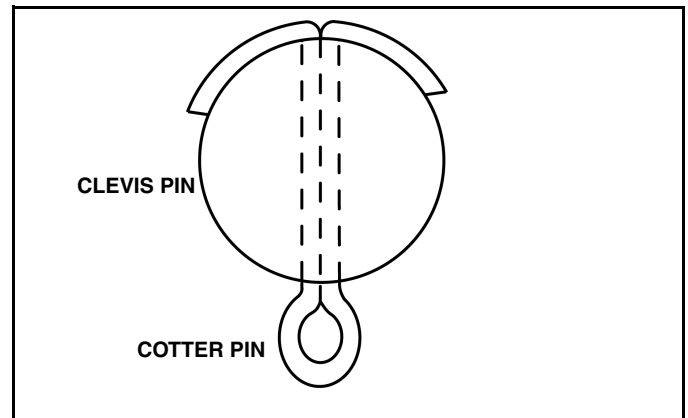
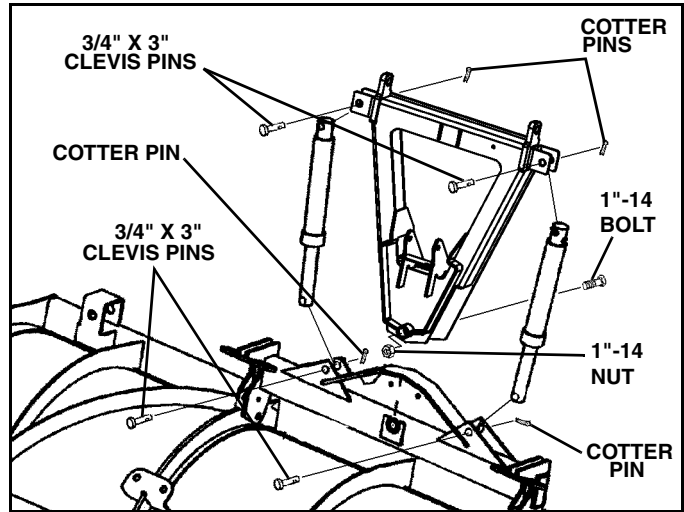
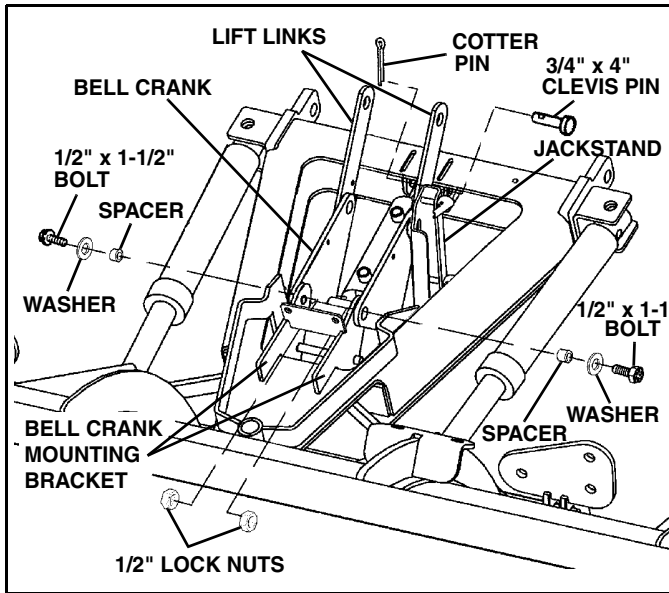

Figure 1-6
Figure 1-8
Figure 1-9
NOTE: Note: Make sure cotter pin is properly bent as in fig. 1-6 or pin may work loose.
11. Slide A-frame over top of the swing frame. Make sure the bell crank mounting brackets are on top. (See Figure 1-8).
12. Lubricate the 1" bolt from the A-frame parts bag and insert it through the A-frame and swing frame. The bolt head should be on the bottom of the plow. Install the 1" nut hand tight only. (See Figure 1-8).
13. Insert the swing cylinders and pin with the 3/4" x 3" clevis pins in the swing cylinder parts bag. (See Figure 1-8). Install cotter pins and bend as in fig. 1-6 to ensure pins do not work loose.
14. Remove bell crank assembly from the power pack carton. (See Figure 1-9)
15. Pin the lift cylinder to the mounts on the A-frame using the 3/4" x 4" clevis pin in the A-frame parts bag. (See Figure 1-9). Install cotter pin and bend as in fig. 1-6 to ensure pin does not work loose.
16. Move the bell crank into position on the outside of the bell crank mounting brackets. Remove bushings from A-frame parts bag and coat with anti-seize. Insert bushings into the bell crank. Use two 1/2" x 1-1/2" bolts with washers and 1/2" locking nuts to secure from the A-frame parts bag. (See Figure 1-9). Washers must be placed on the bushing side. Before tightening bolts, make sure lift links can swing up from bellcrank above A-frame as shown in fig. 1-9.
22. Install 3/4" washer and cotter pin. Install cotter pin and bend as in fig. 1-6 to ensure pin does not work loose.